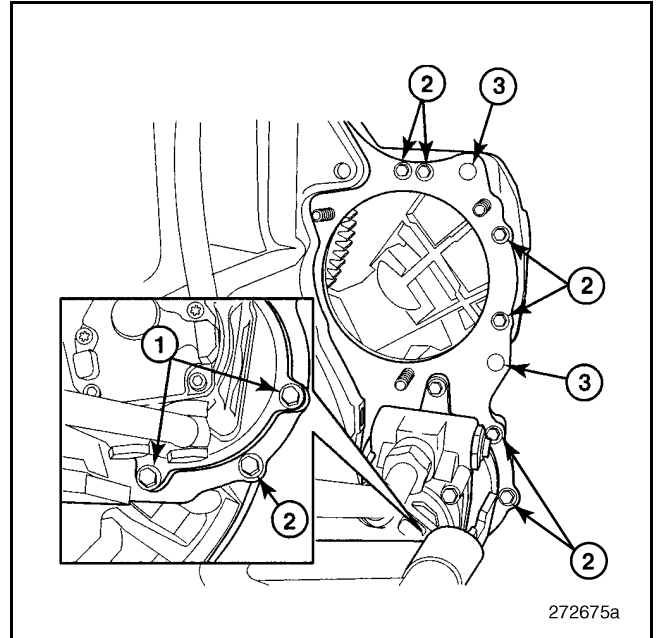

Figure 349 — Timing Gear Plate Attachment
- Install the timing gear plate to the flywheel housing bolts (item 2 in Figure 349).